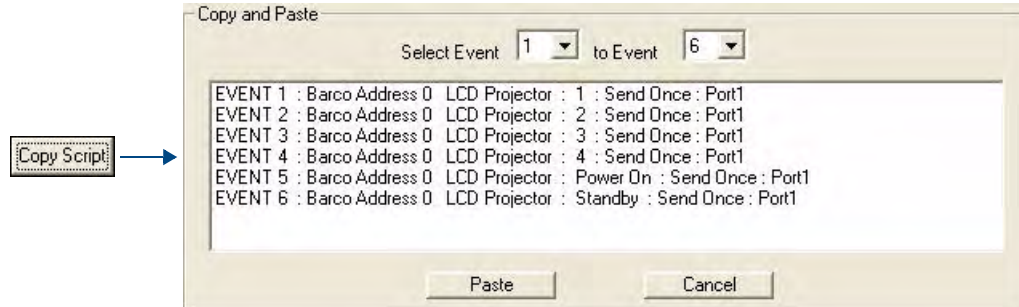

FIG. 82 Copy and Paste window
1. Click on the **Copy Script** button in the Command Bar to invoke the *Copy and Paste* window, displaying the current button script (FIG. 82):